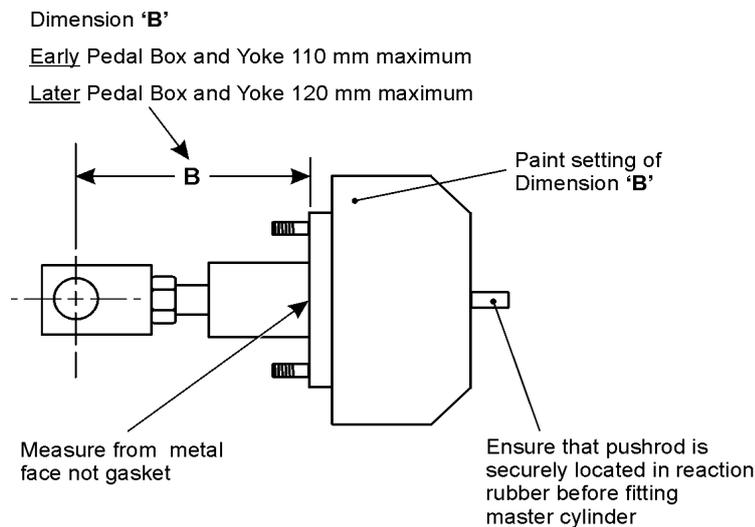

Figure 124 Servo Cylinder Input Rod Length
- a. Ensure that the distance from the centre of the clevis fork to the servo cylinder face is 110 mm for the early pedal box and 120 mm for the late pedal box (Figure 124).